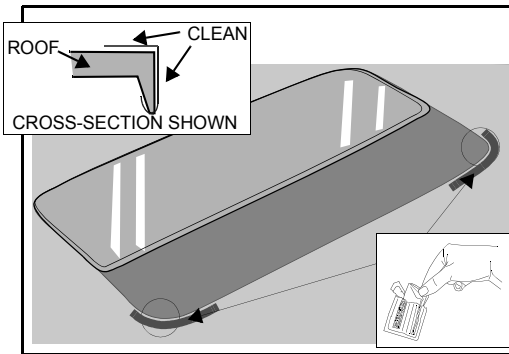

Figure 5. Cleaning areas
5. Clean the roof section in front of each previously noted position with alcohol wipe provided and remove any residue with a dry clean cloth. See Figure 5.